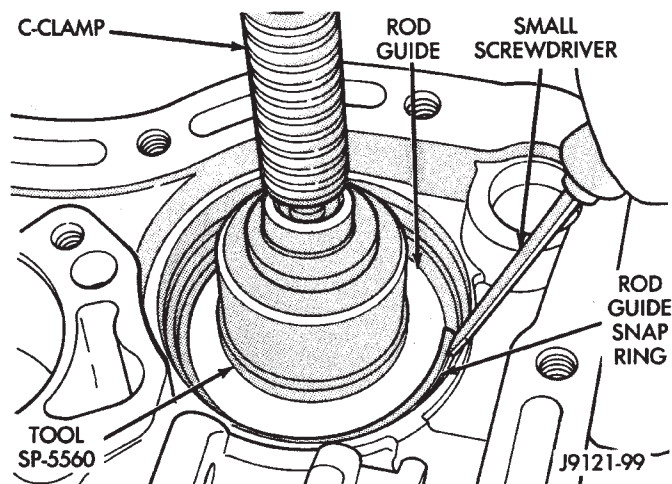
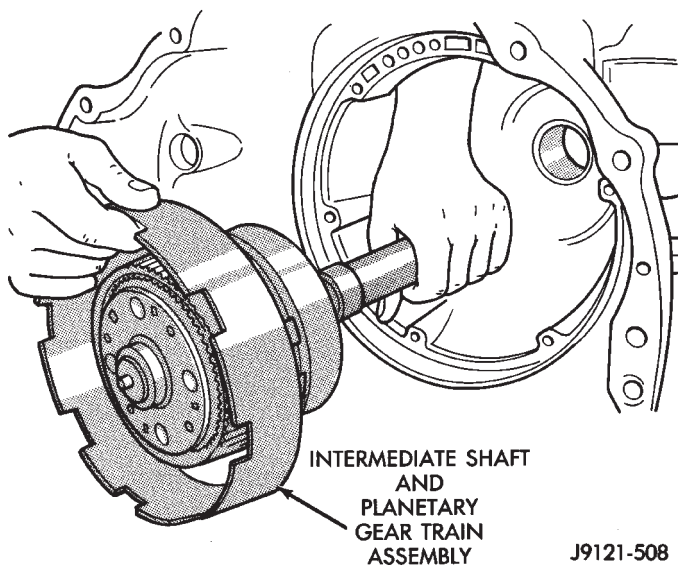

Fig. 140 Installing Front Servo Rod Guide And Snap Ring—46RH
Fig. 141 Installing Intermediate Shaft And Planetary Geartrain—46RH
(a) Place Tool SP-5560 (or similar size tool) on guide and position C-clamp on tool and case (Fig. 140).
(b) Slowly compress rod guide while simultaneously easing seal ring into bore with suitable tool. (17) Install rod guide snap ring (Fig. 140).
(18) Position front band lever in case and over servo rod guide. Then install front band lever pin in case and slide it through lever.
(19) Coat threads of front band lever pin access plug with sealer and install it in case. Tighten plug to 17 N•m (13 ft. lbs.) torque.
(20) Install assembled output shaft and planetary gear components (Fig. 141). **Support shaft care-**